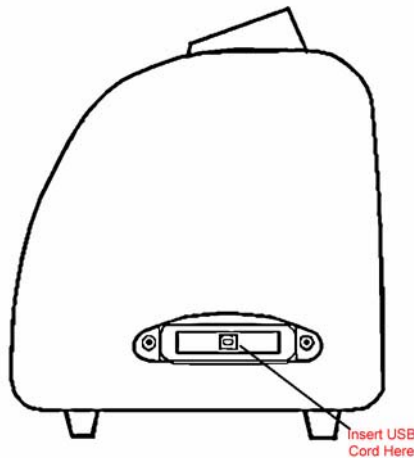

Figure 2
- 3 Using the USB cable, connect the cutter to your computer. See figure 2.